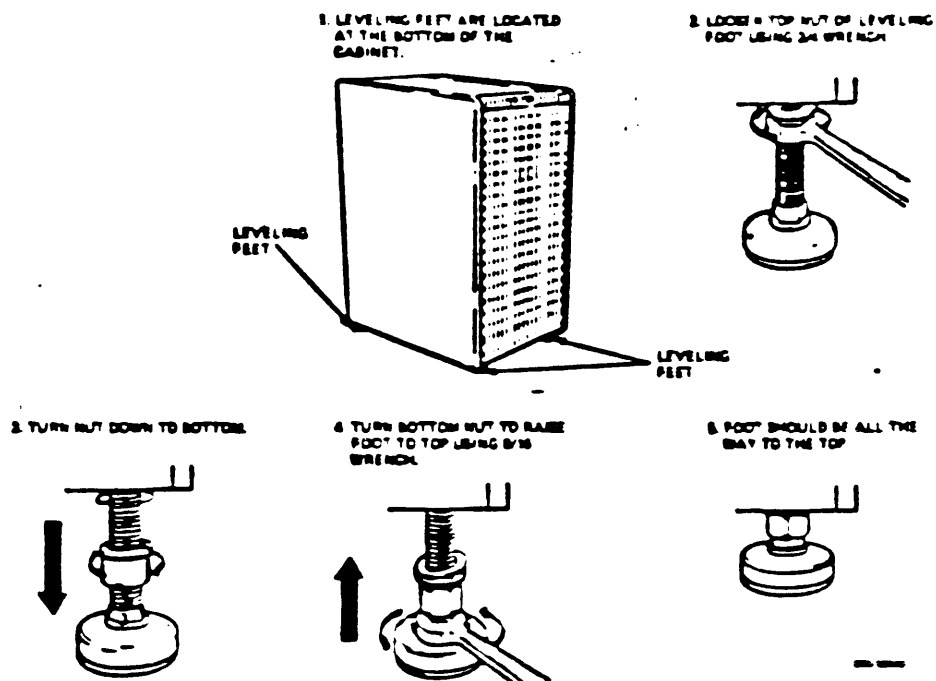

Figure 2-20. Raising the Four Leveling Feet.
Step 7: Raise the four leveling feet as described in Figure 2-20.
- o To lower the leveling feet, reverse the procedure described in figure 2-20.